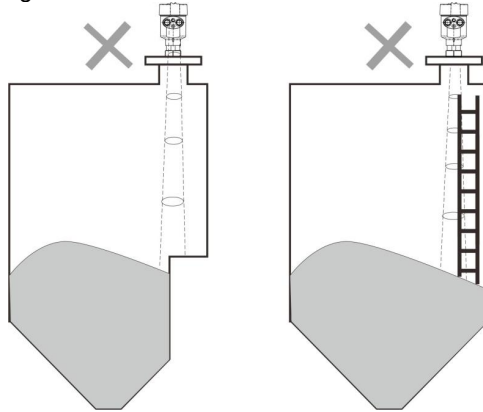

Fig 7 Example for avoiding false echo
- Keep the antenna beam free of any interference such as ladders, pipes, steps, as shown in Fig. 7